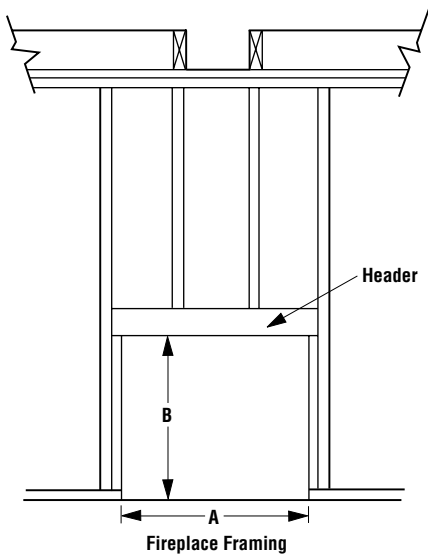

Figure 10
Step 3. Refer to fireplace drawings and specifications on pages 6 and 7 for framing dimensions and details. Frame appliance enclosure as illustrated in *Figures 10 through 13* on page 7.